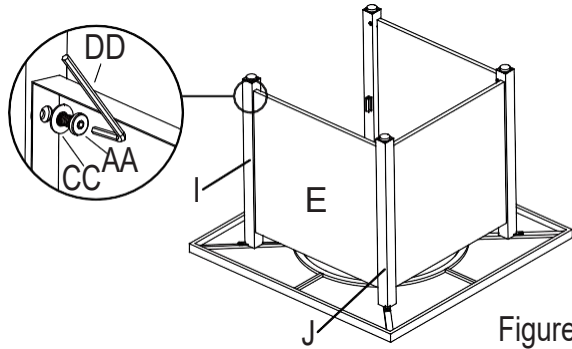

Figure 5
5. Attach back panel (E) to back-left leg (I) and back-right leg (J) with bolts (AA) and washer (CC) using hex screw driver (DD), (see Figure 5).